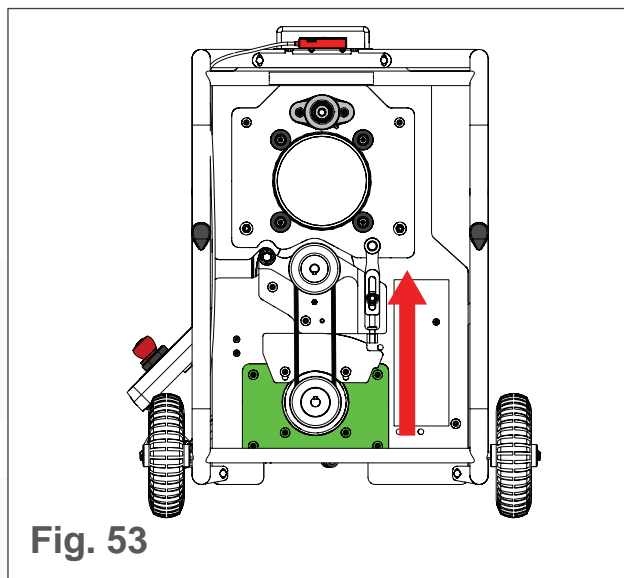

Fig. 53
6. Slide the motor up towards the tumbler (see Fig. 53).